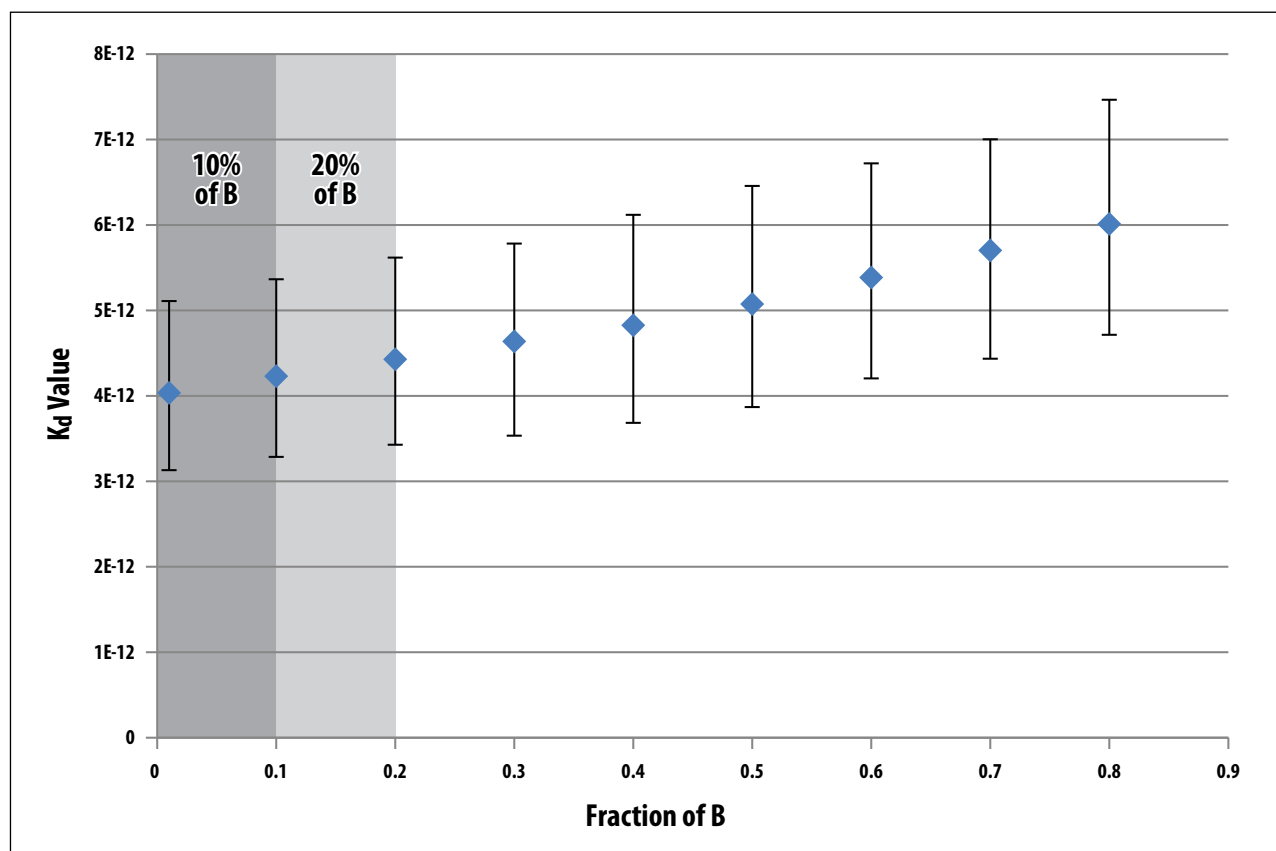

Figure 2. K_d value reported when using CBP concentrations at various fractions of B. Shaded portion shows recommended range.
To estimate the error in K_d , signals were simulated using the hyperbolic equation and analyzed using the standard KinExA Pro analysis with its built in linear assumption. The simulations (each conducted as a dual curve) were repeated with the CBP concentration of the simulated data representing different fractions of B. Results of the simulation are shown in **Figure 2**. The error bars indicate 95% confidence intervals (CI) and show that the true K_d (4 pM) is still included in the reported CI even at a CBP of $0.5 \cdot B$.